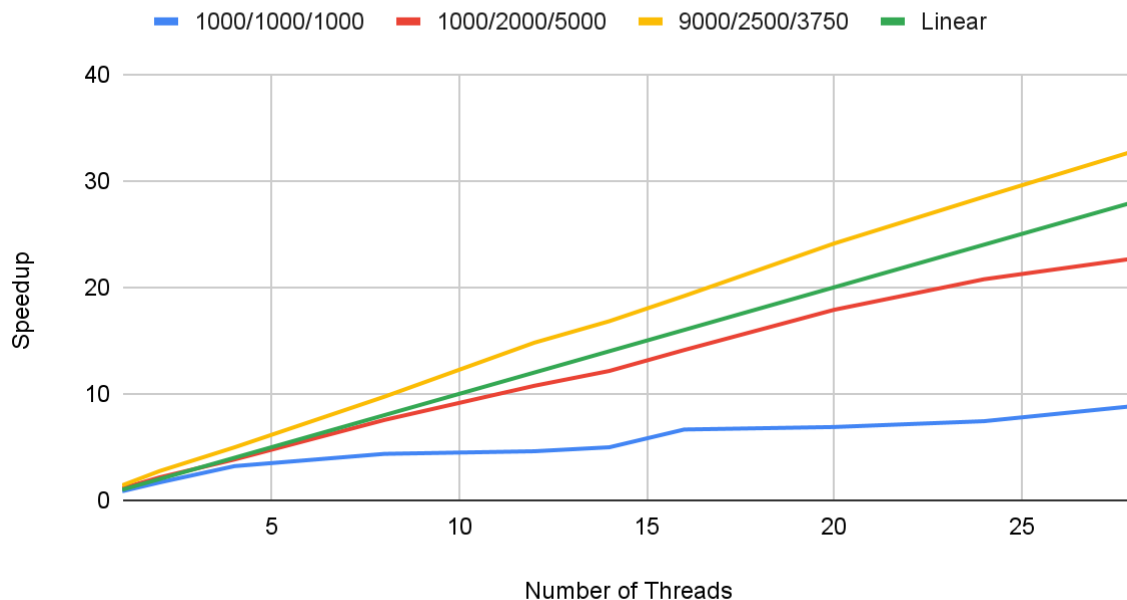
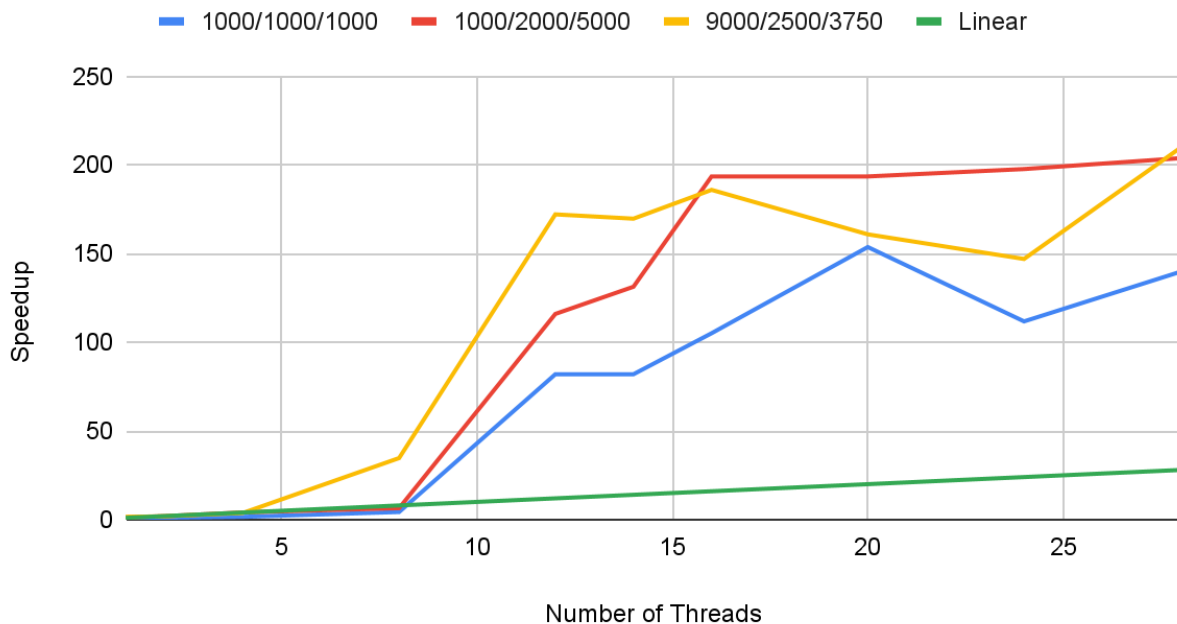

Figure 1: Strong Scaling Chart of speedup for Block parallelization
Figure 2: Strong Scaling Chart of speedup for Tiling parallelization
2. My timing results in **Figure 1** and **Figure 2** show my timing results for my parallel executions. I ran with a block and tile size that was proportional to the size of my matrix. A matrix with 5000 rows would have a block size and tile size of 500 while a matrix with 1000 rows would have a block size and tile size of 100.